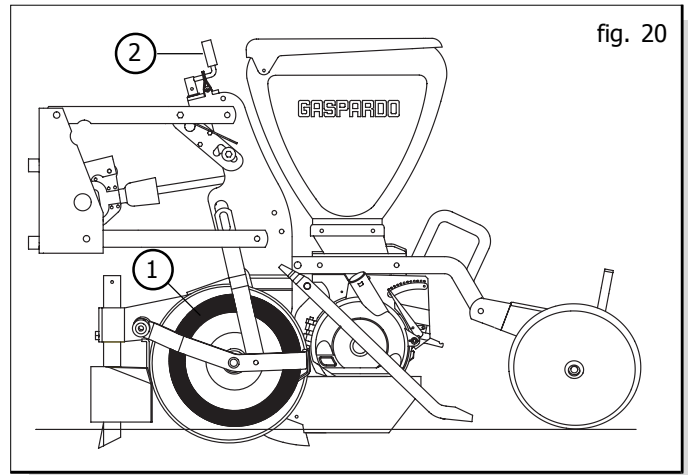

fig. 20
- Put the chain on the gears selected and align them (Fig. 20).
- Adjust the seeding depth by changing the height of the side wheels (1 Fig. 20) using the crank (2 Fig. 20). A numbered scale enables all of the parts to be adjusted to the same degree.